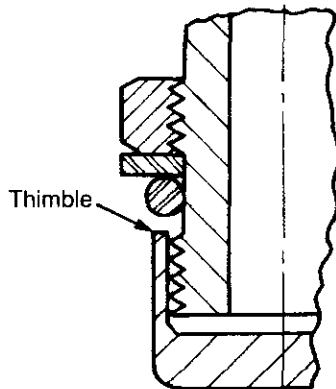

Figure 6. Installed O-Ring
1. Lubricate the O-ring with the fluid to be sealed or a light grease such as petroleum. Use a plastic or metal thimble over the threads when replacing the O-ring to avoid a nick or cut from the threads. Slide the O-ring over thimble and onto undercut section of fitting and against the back-up washer, Figure 6.
1. O-ring cut	Replace O-ring lubricating with petrolatum or fluid to be sealed. Use thimble, Figure 6, to protect ring. Inspect for burr.